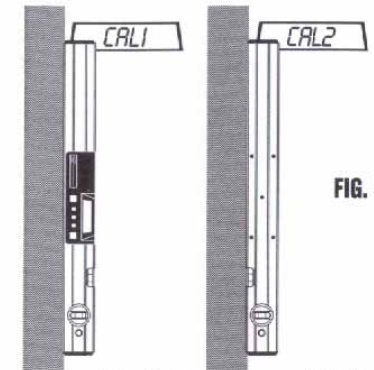

FIG. 5
Step 6: Turn SMARTTOOL™ with the display facing away from you, along its long axis (the plumb vial is still at the bottom, but the level vial is now against the flat vertical surface.) Wait 10 seconds. Push the CALIBRATE button for 2 seconds until CAL2 appears on the display. (see fig. 5)